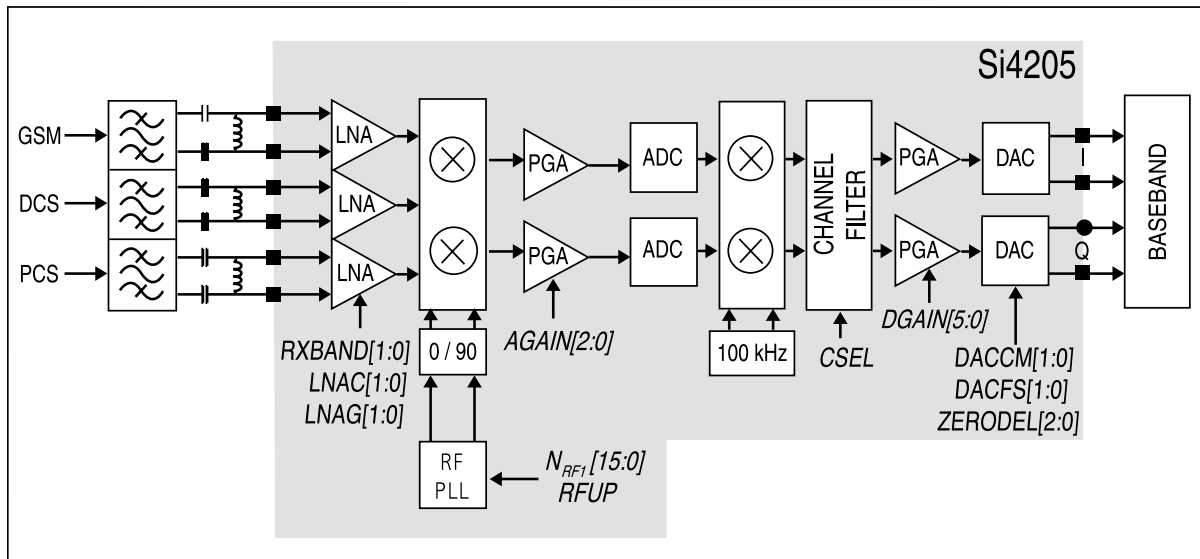

Figure 3-2 SI4205 RECEIVER PART
The LNA inputs are matched to the 150Ω balanced output SAW filters through external LC matching networks. The LNA gain is controlled with the LNAG[1:0] and LNAC[1:0] bits in register 05h (Figure 3-2).
B. Intermediatefrequency (IF) and Demodulation
A quadrature image-reject mixer downconverts the RF signal to a 100KHz intermediate frequency (IF) with the RFLO from the frequency synthesizer. The RFLO frequency is between 1737.8 to 1989.9 MHz, and is internally divided by 2 for GSM 850 and E-GSM 900 modes. The mixer output is amplified with an analog programmable gain amplifier (PGA), which is controlled with the $AGAIN[2:0]$ bits in register 05h (Figure 3-2). The quadrature IF signal is digitized with high resolution A/D converters (ADCs).